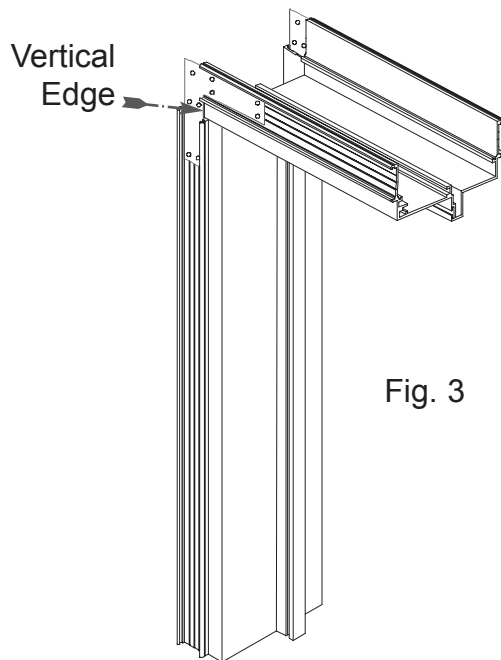
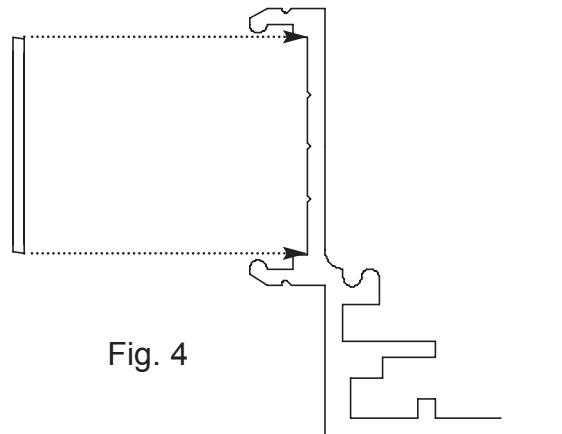

Fig. 3
Fig. 4
- a.) If doors are not premortised, then use a square to attain a 90° corner between head & jambs. Head must butt up to vertical edge of clip (Fig. 3) and set flat in alignment groove (Fig. 4). You can then attach clips.
9. Pull header down to door, allowing 1/8" spacing. Install corner clips (Fig. 3 & 4) and secure to wall.